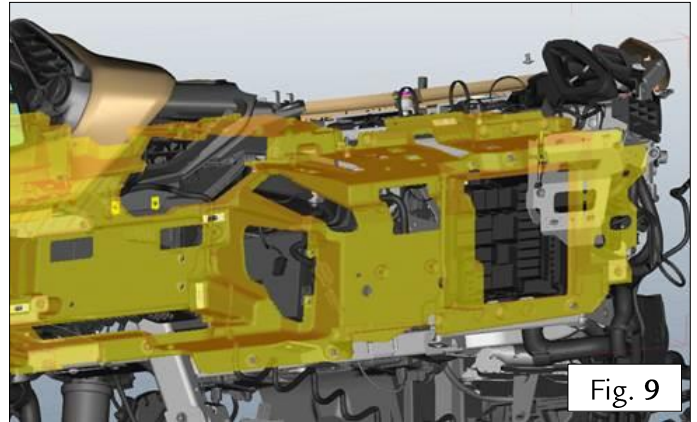

Fig. 9
- 2.7. Remove the lower dashboard frame (as described in paragraph E4.02 of the Workshop Manual) – Fig. 9.